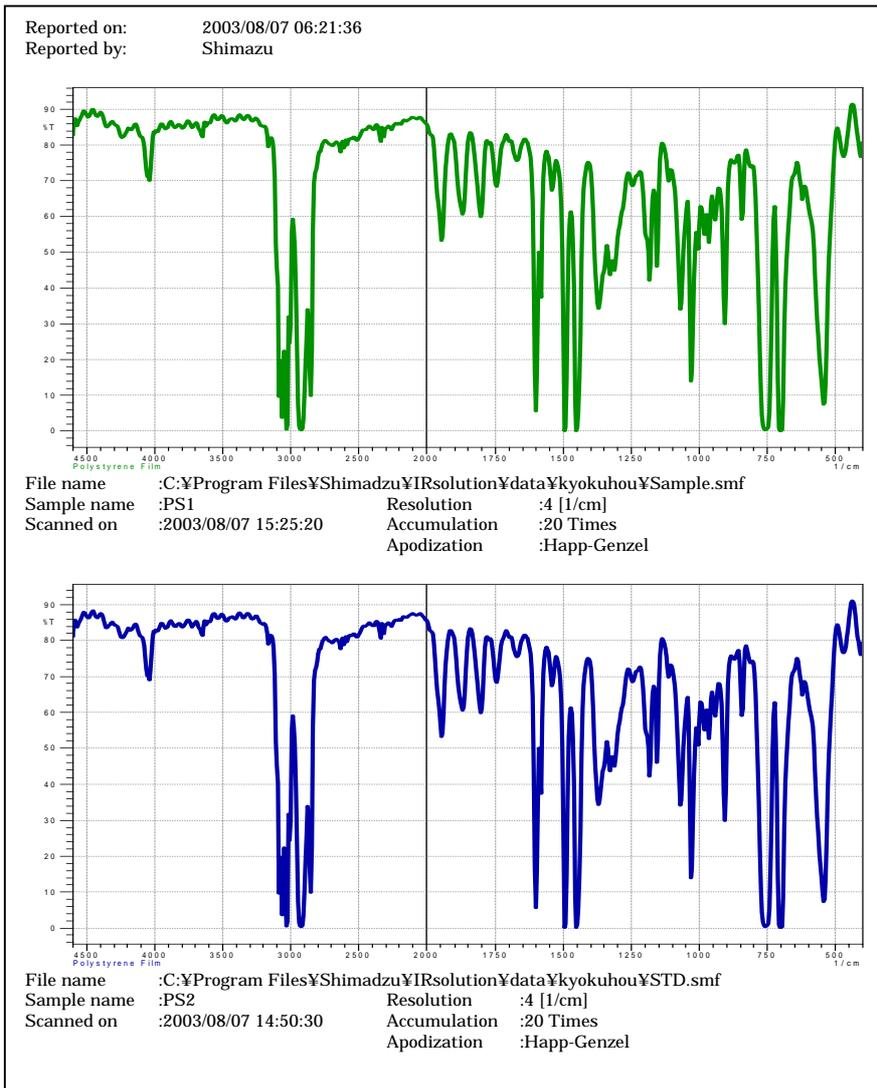

Figure 4-5. Printed report example
7. Click <Yes> button to printout a Report such as Figure 4-5. The program ends if <No> button is clicked.